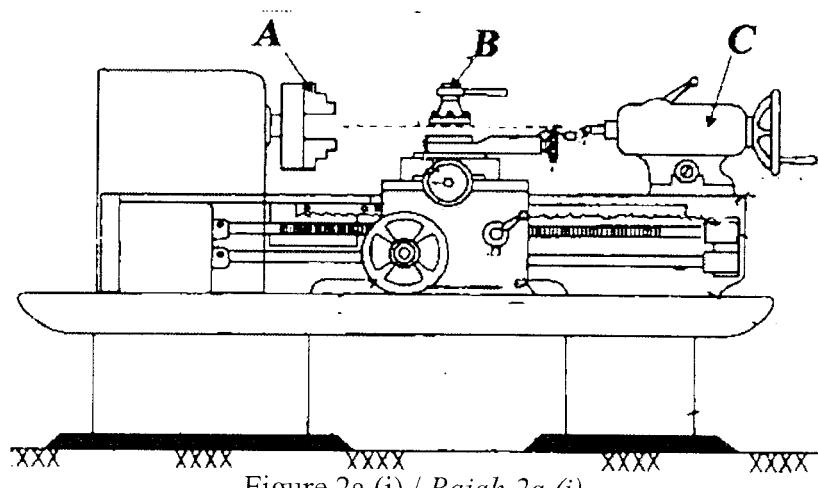

Figure 2a (i) / Rajah 2a (i)
- (a) i. Figure 2a (i) shows various parts of centre lathe machine labelled as **A**, **B**, and **C**. State the name and function of the labeled parts.